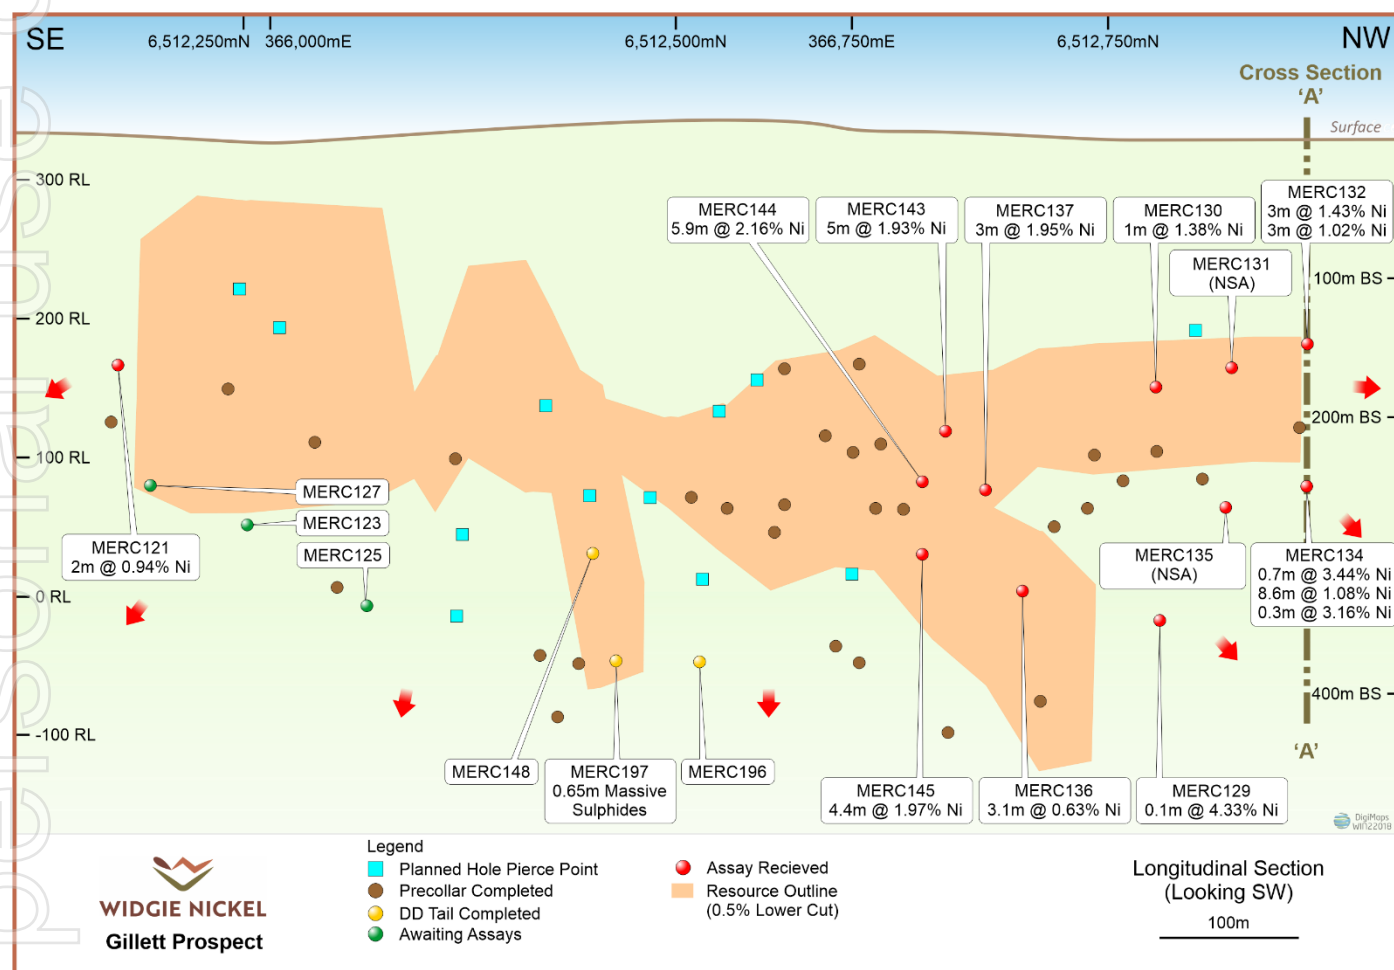

Figure 1 - Gillett long section looking southwest
- **3 m at 1.43% Ni** from 136 m (including **2 m @ 1.69% Ni** from 137 m) and **3 m @ 1.02% Ni** from 164 m in **MERC132 (RC)**
- **1.1 m at 1.9% Ni** including **0.1 m at 4.33% Ni** from 360.9 m in **MERC129 (DD)**
- **1 m at 1.38% Ni** from 184 m in **MERC130 (RC)**
- **8 m at 1.16% Ni** from 274 m including **3 m at 1.95% Ni** from 278m in **MERC137 (DD)**
Widgie Nickel Limited (ASX: WIN, "Widgie" or "the Company") is pleased to provide the first assay results from its Reverse Circulation (RC) and diamond (DD) infill and extensional drilling program specific to the Gillett mineralisation (Figure 1).